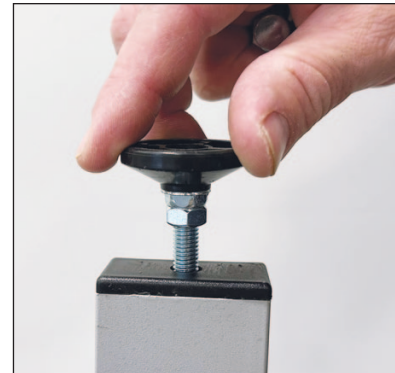

Fig. 1
1. Screw the leveling feet into the bottom of the legs. (Fig. 1)